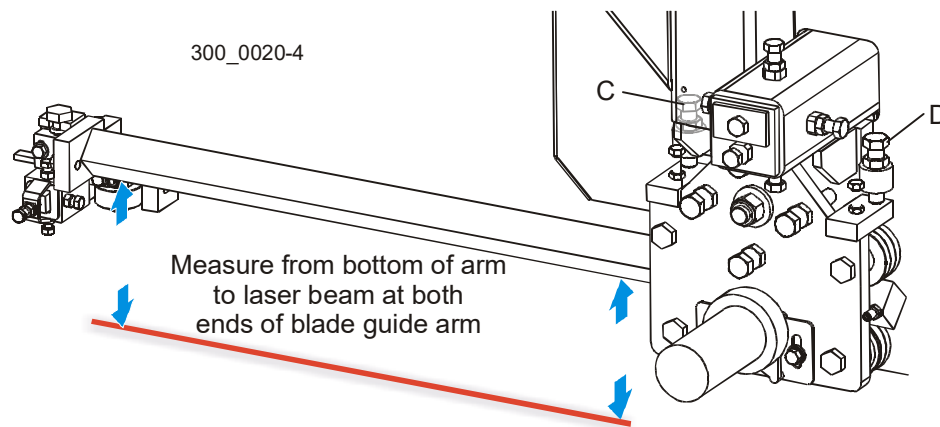

FIG. 3-37
6. Adjust bolt (C) up and bolt (D) down to tilt the arm up.
7. Adjust bolt (D) up and bolt (C) down to tilt the arm down.
10. Tighten the jam nuts. See Fig. 3-37.